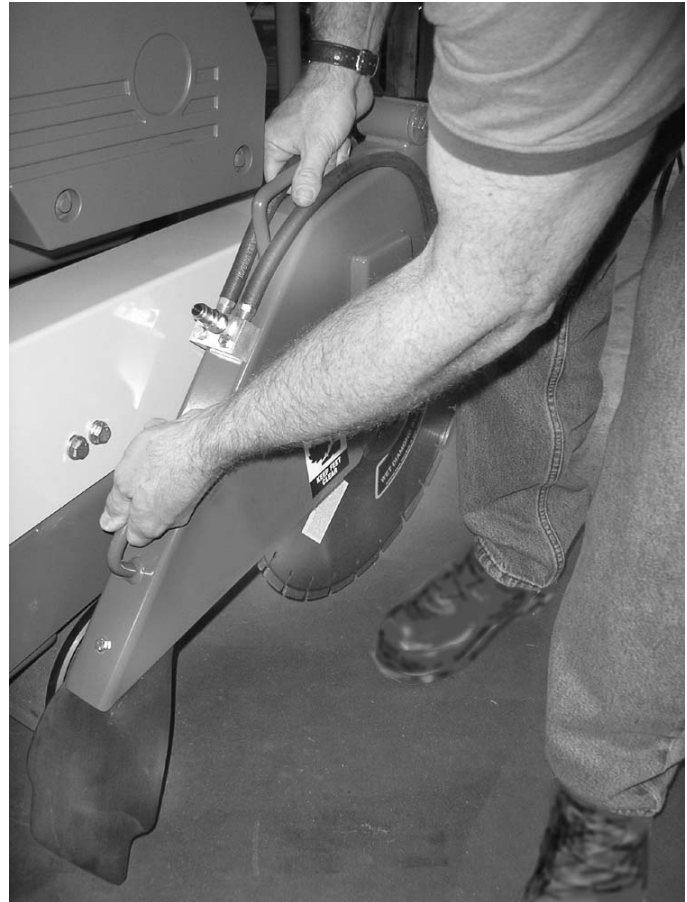

Figure 16. Removing The Blade Guard
2. Standing toward the back of the blade guard, grasp the top handle firmly with your outboard hand (this will be the right hand if the guard is mounted on the right as viewed from the operator's position), and prepare to support the weight of the blade guard. (Figure 16.)